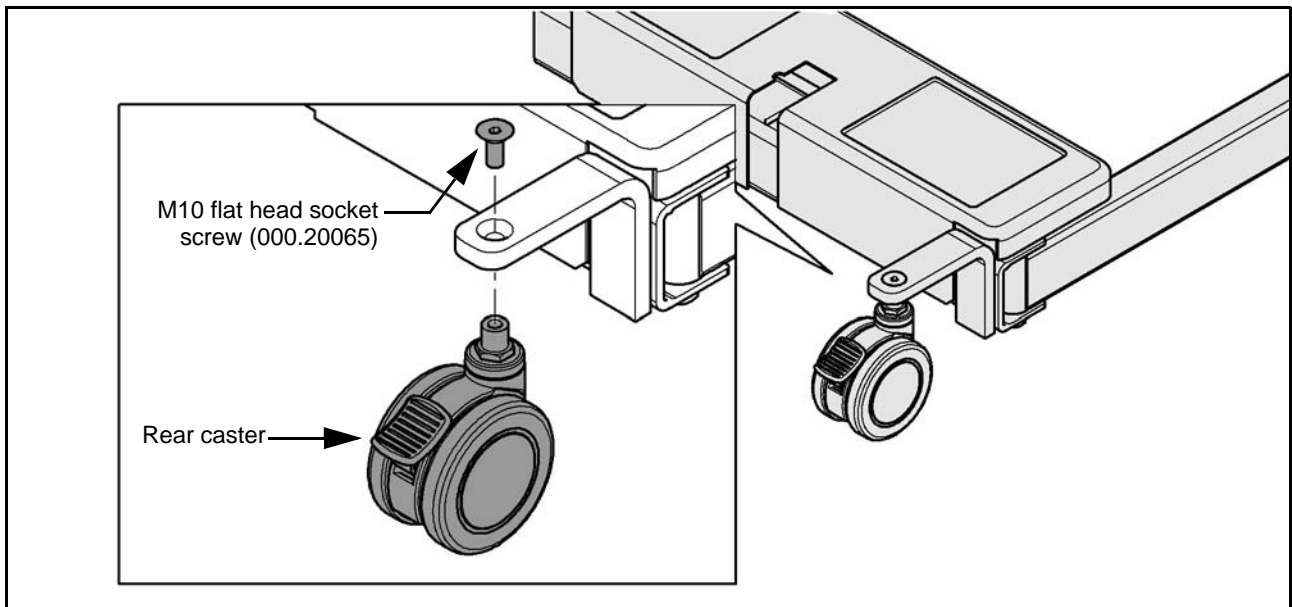

Fig. 13
- 2) Remove the caster by unscrewing flat head socket screw, holding the stem by the hexagonal section (see Fig. 13).